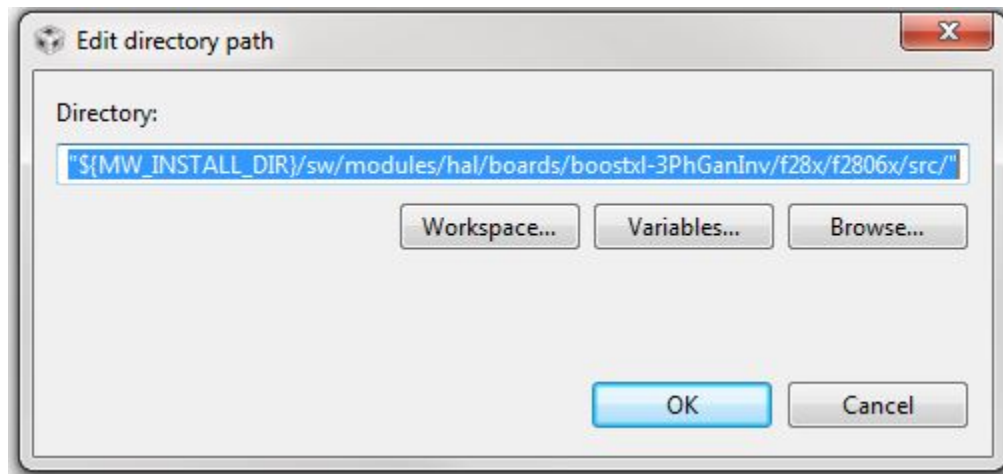

Figure 11. Dialog Window for Step 6b
- b. Select the path highlighted `${MW_INSTALL_DIR}` and change this to `${MW_INSTALL_DIR}/sw/modules/hal/boards/boostxl-3PhGaNInv/f28x/f2806x/src/` as Figure 11 shows: